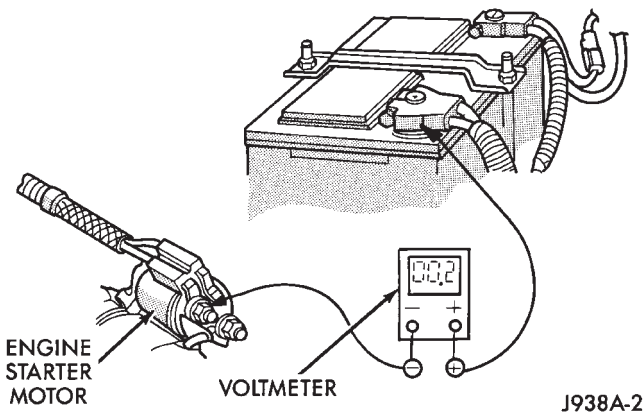

Fig. 4 Test Positive Battery Cable Resistance (Typical)
(3) Connect a voltmeter to measure between the battery positive post and the center of the B+ starter solenoid stud (Fig. 4).